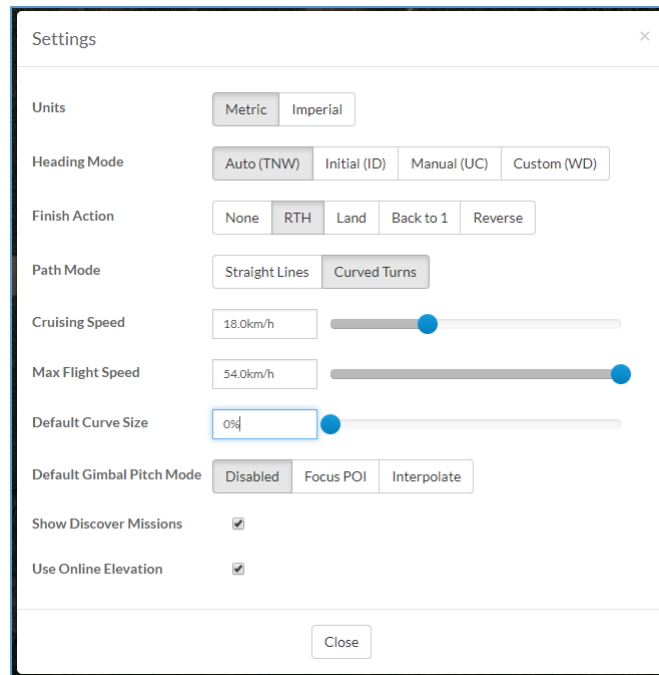

Figure 23 - Settings
29. Click "Settings" to set our default settings. Use the settings as shown in Figure 23 then close.